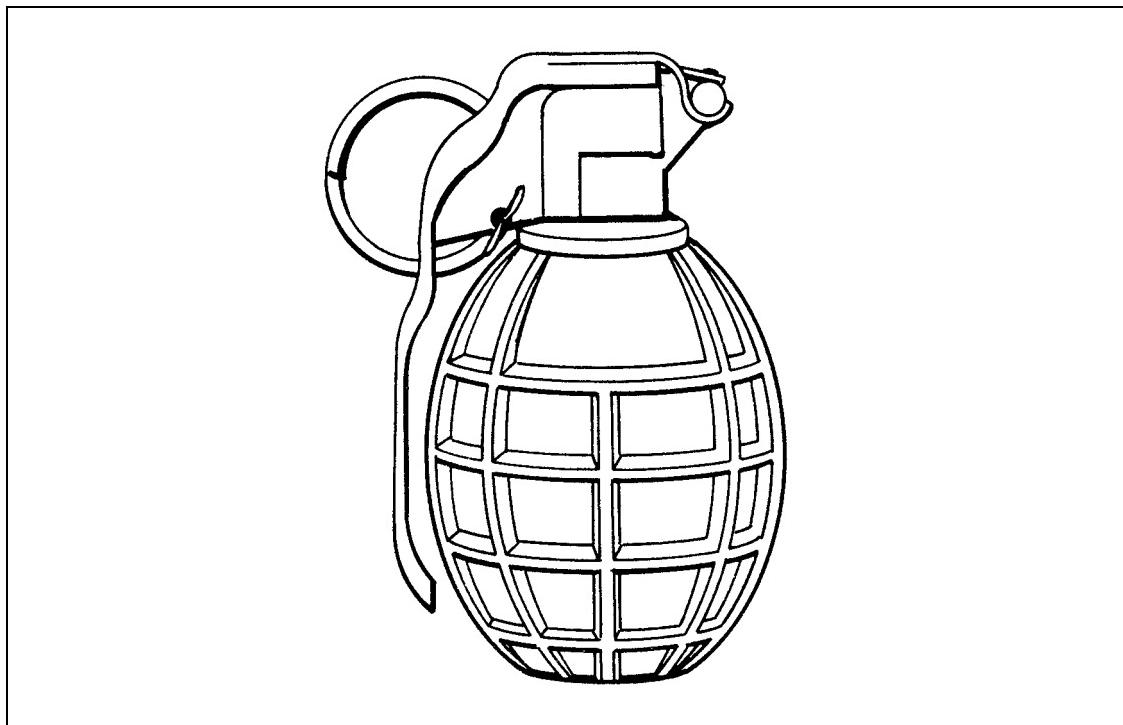

Figure F-23. HdGr 73 hand grenade.
- Type: Defensive. (Figure F-23)